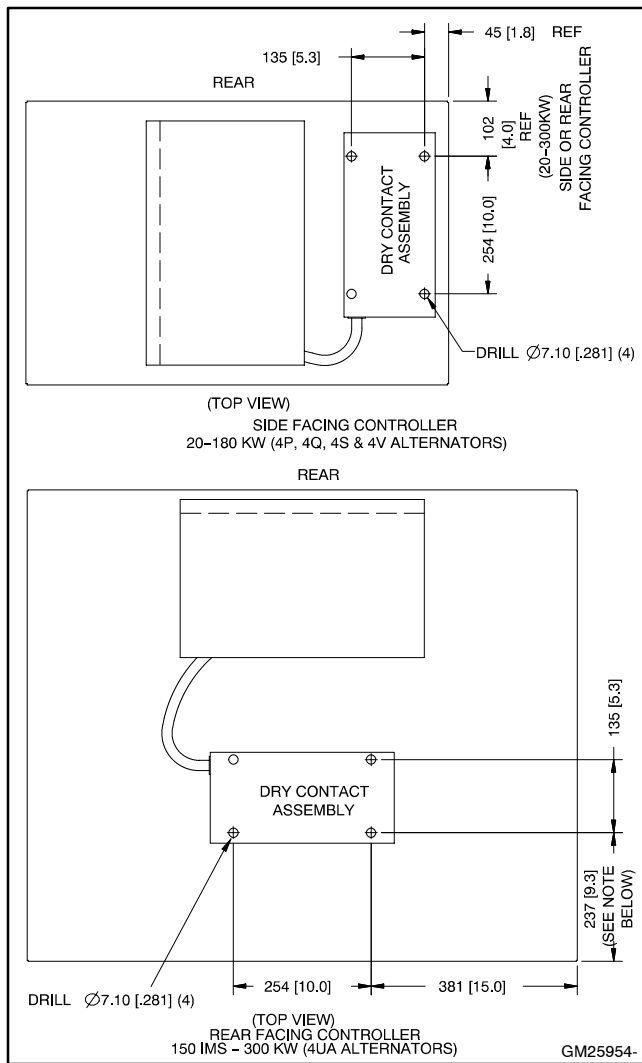
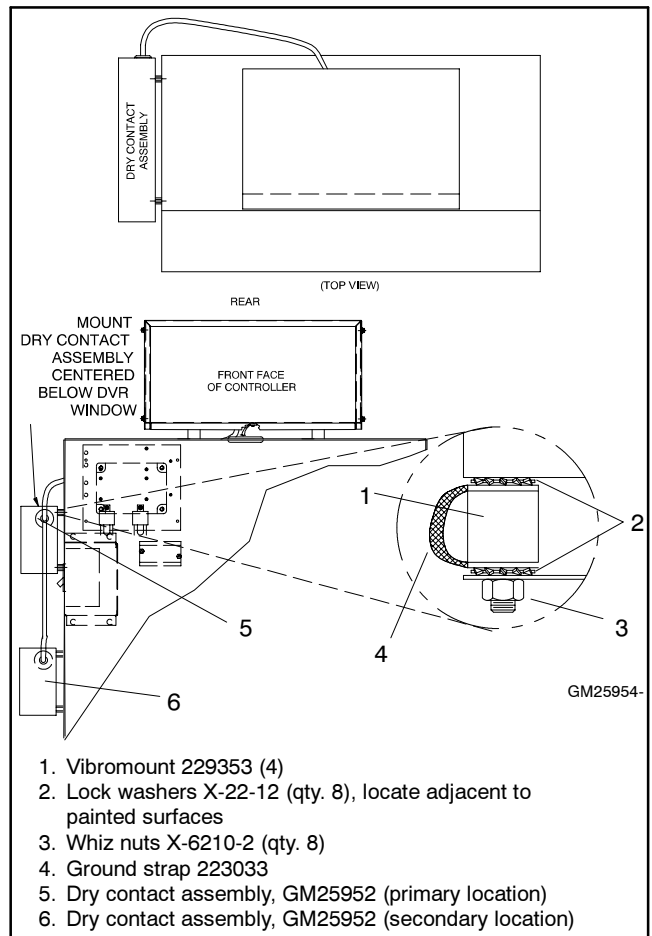

Figure 7 Junction Box Drilling Information
Figure 9 Junction Box Drilling Information
Mount the dry contact assembly in one of the areas listed below. Use the dry contact assembly box as a template and drill the necessary mounting holes. See Figure 7 (20–300 kW) or Figure 9 (350/400 kW) for suggested mounting locations.
- 4.2.1 Drill four 7.1 mm (0.281 in.) diameter holes in the junction box as shown in Figure 7. The 14-relay dry contact kit mounts behind the controller.
- 4.2.4 Mount the 14-relay dry contact assembly (GM25952) to the junction box using four vibromounts (229353), eight lock washers (X-22-12), and eight whiz nuts (X-6210-2). See Figure 7 for the mounting position.
4.3.1 Drill four 7.1 mm (0.281 in.) diameter holes in the junction box as shown in Figure 9. Mount the 14-relay dry contact assembly in the primary location when no ten-relay dry contact assembly is installed. If a ten-relay dry contact assembly is or will be installed, mount the 14-relay dry contact assembly in the secondary location.
4.3.4 Mount the 14-relay dry contact assembly (GM25952) to the junction box using four vibromounts (229353), eight lock washers (X-22-12), and eight whiz nuts (X-6210-2). Install the ground strap (223033) as shown in Figure 9.
- 4.4.4 Mount the 14-relay dry contact assembly (GM25952) to the junction box using four vibromounts (229353), eight lock washers (X-22-12), and eight whiz nuts (X-6210-2). Install the ground strap (223033) as shown in Figure 9.